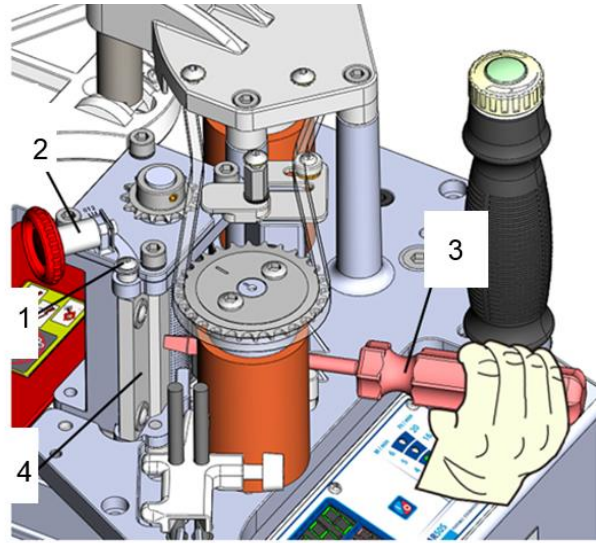

Fig7
- Reset scraper support pin to default setting : Remove top ventilated cover, loose screw (1) adjust scrapper support pin (2)to default setting, use flathead (3) screw driver to press on and tighten up the main scraper plate (4) then tighten the screw (1) after completed above instructions(Fig 7).